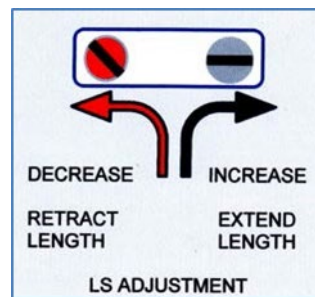

Figure 7 - Retract
2.12 To reduce (decrease) gate travel towards the open position turn the retract length adjustment screw counter clockwise. As indicated in red in Figure 7.